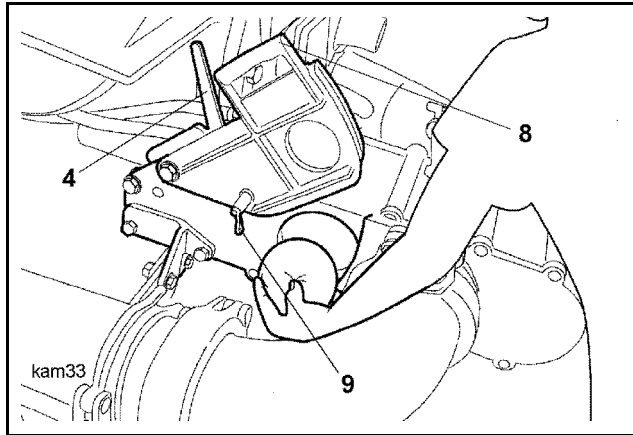

Fig. 459
- Push a damp, hard cleaning ball into the chamber (**Fig. 459**).
- Release the toggle (9) (**Fig. 459**) again so that the flap (8) can be closed.
- Close the flap (8).